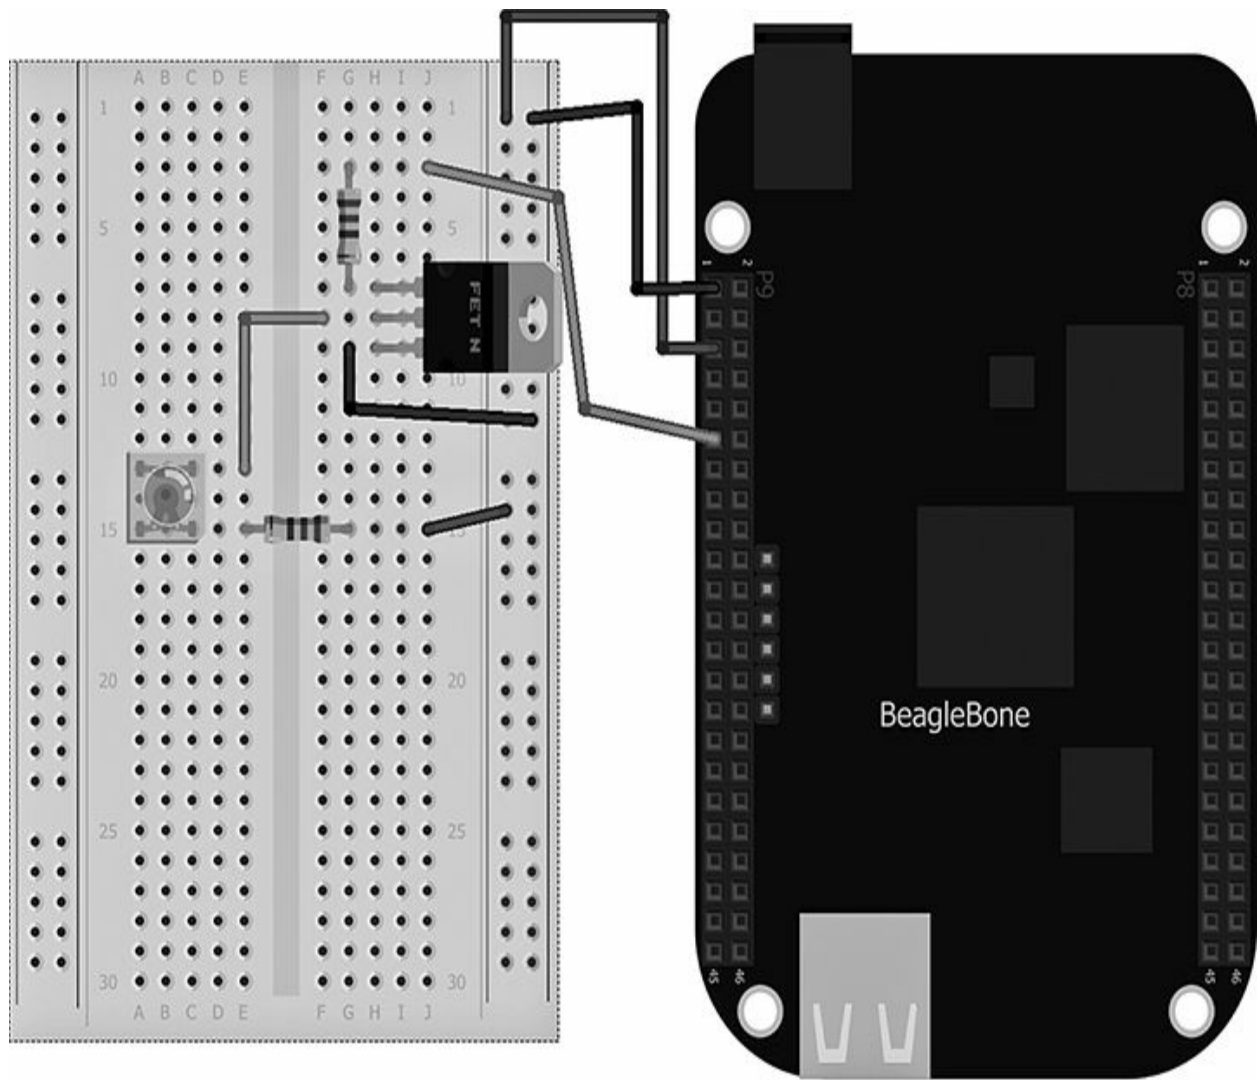
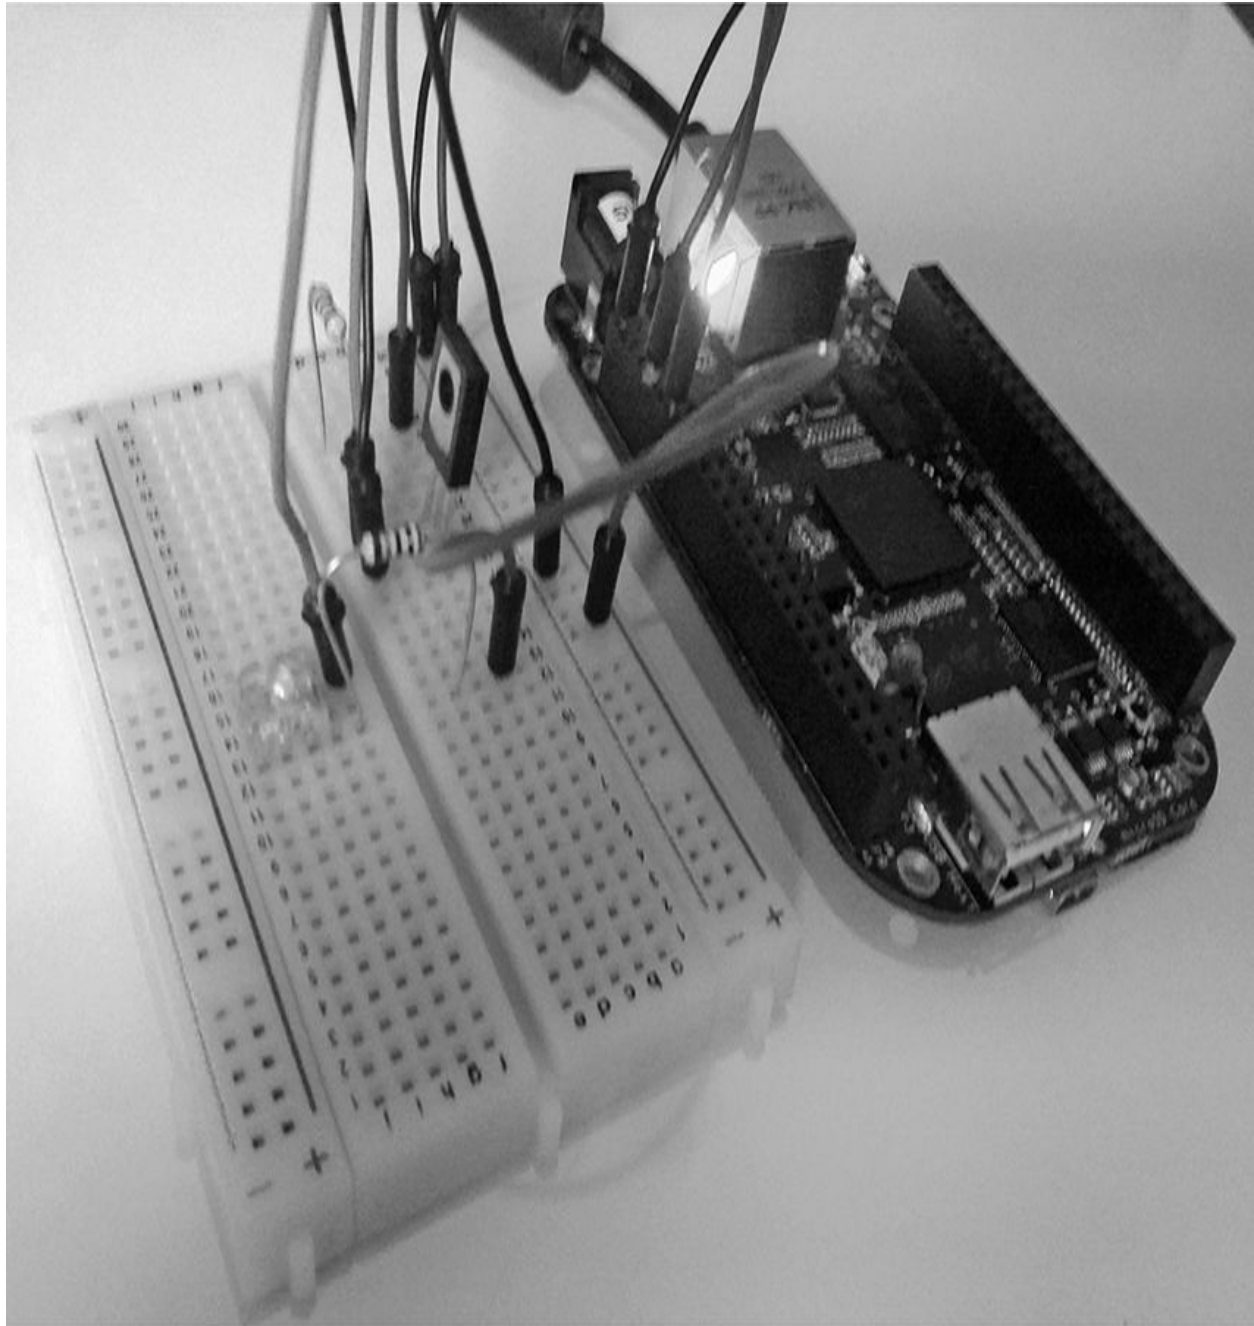

Figure 2-12 Breadboard layout for Project 4
Figure 2-13 Project 4 high-powered Morse code sender
R2 limits the current flowing through the LED to around 60mA. Therefore, using Ohm's law, we can calculate the value of our resistor using $R = V/I$. The voltage (V) will be 5 (supply voltage) – 2.6 (LED forward voltage) – 0.6 (between the base and the emitter transistors a voltage drop of 0.6V normally occurs, so we must subtract this value from our equation). So $R = 1.8/0.06$ gives us a resistive value of 30R. We must also make sure we select a resistor that can cope with the required power rating as power is dissipated through the resistor as heat. Therefore, $60\text{mA} \times 1.6\text{V} = 96\text{mW}$. This means we can safely use a 0.125W resistor or higher. Figure 2-12 shows the breadboard layout for Project 4. The completed Project 4 can be shown in Figure 2-13.